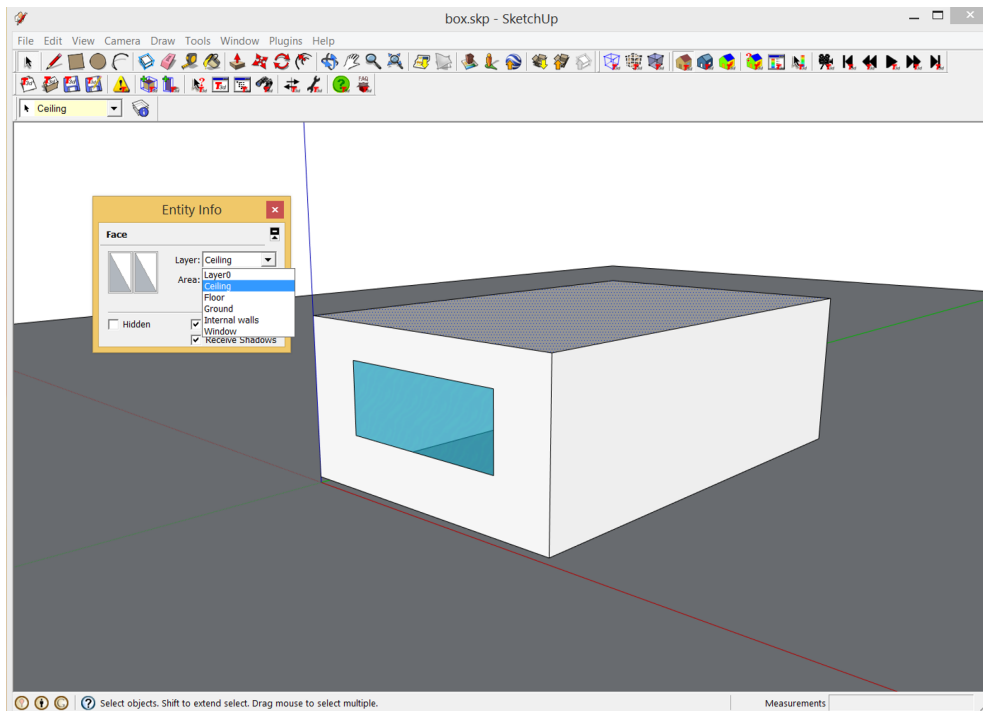

Figure 1.4: Definition of the surface in the respective layer
4. Select the layer for the entities from the 'Layers' drop-down list, figure 1.4.